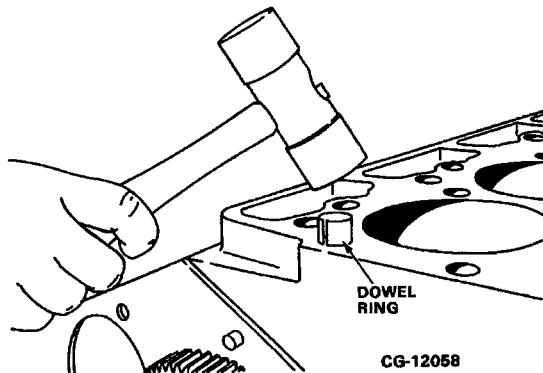

Figure 4.64. Install Dowel Rings in Crankcase
3. Install the dowel rings into the crankcase top deck. Refer to Figure 4.64.